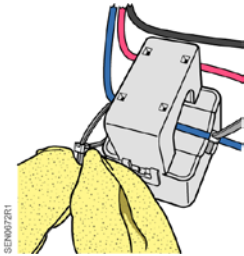

Figure 4. CT with Zip Ties Installed.
5. (Optional) Use two zip ties to secure the CT to the conductor by wrapping one zip tie around each of the CT's mounting brackets. This will ensure that the CT does not slide on the conductor once installed. See Figure 4.